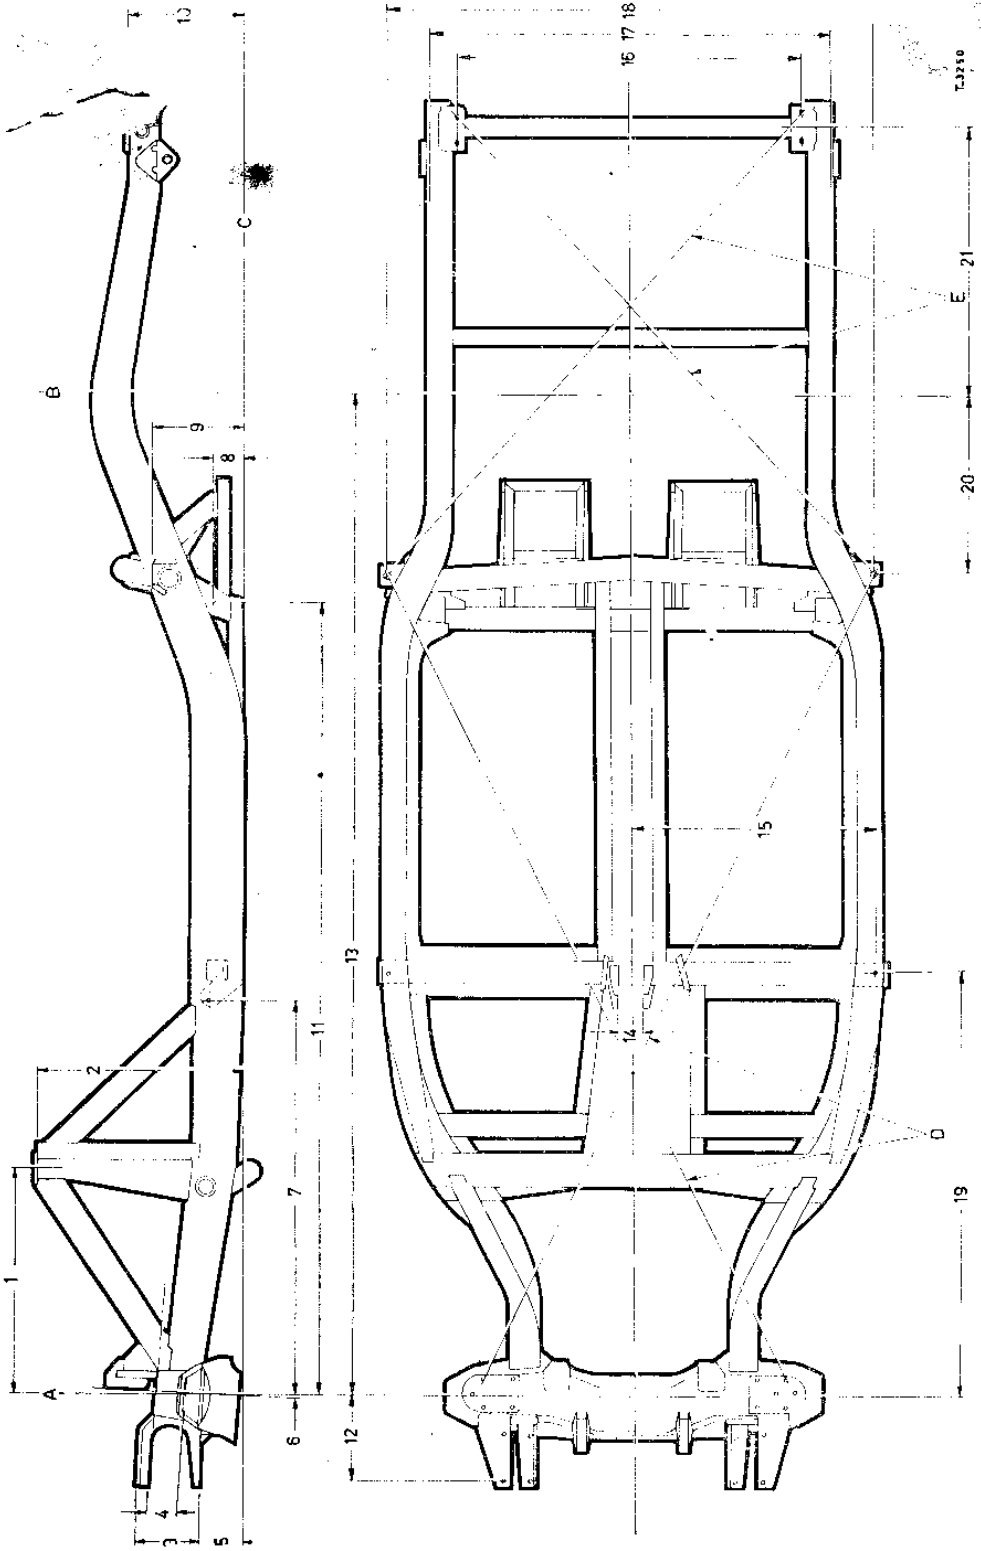

Fig. 28. Chassis frame, dimensions
**Chassis:** All-steel chassis, consisting of box-section side-members and tubular and box section cross-members, are welded together. The front suspension mounting platform and the box section scuttle structure stiffen the frame at the front end, thus ensuring a unit with good torsional rigidity. For chassis frame dimensions refer to Figure 28.
- (1) Jack-up the front of the car and place stands under the chassis side-members. Remove the appropriate front wheel.
- (2) Install a jack under the coil spring seat and jack-up until the shock-absorber arm is just clear of the rebound rubber. Disconnect the brake hose.
- (3) Slacken the trackrod nuts and screw the trackrod out of the steering ball-joints, using a wrench on the flats in the rod.
- (4) Remove the split cotter-pins and unscrew the nuts securing the two outer fulcrum bolts. Tap out the fulcrum bolts and remove the front hub and steering swivel assembly. Take care not to lose the thrust washers and rubber seals.
- (5) Release the jack from under the coil spring seat. Remove the coil spring and unscrew the four bolts securing the coil spring seat to the suspension arms.
- (6) Remove the split cotter-pins and unscrew the nuts from the ends of the inner fulcrum shaft. Remove the lower suspension arms, together with the rubber bushes.
- (7) If necessary, the inner fulcrum shaft and hydraulic shock-absorber can now be removed.
- (8) Unscrew the upper and lower trunnions from the steering swivel pin. The left-hand swivel pin has left-hand threads. It is not recommended to separate the steering lever from the stub axle. Carefully clean and inspect all parts and replace those that are damaged or worn.
- (1) Reinstall the shock-absorber and the inner fulcrum shaft. When fitting the latter, the front outer bolt is installed with its nut uppermost; the other bolts with their nuts down.
- (2) Fit the rubber bushes (preferably dusted with French chalk) into the lower suspension arms. These bushes are a loose fit in the suspension arms but when the nuts are tightened, they will expand into their housings. It is therefore essential that they are installed with the suspension arm assembly in the centre of its arc of normal movement.
*Key to Fig. 28*